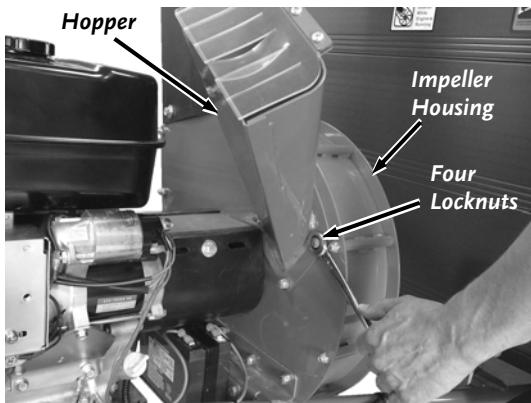

Figure 45
1. Remove the four Locknuts from the Hopper with a 1/2" Wrench and remove the Hopper (**Figure 45**).